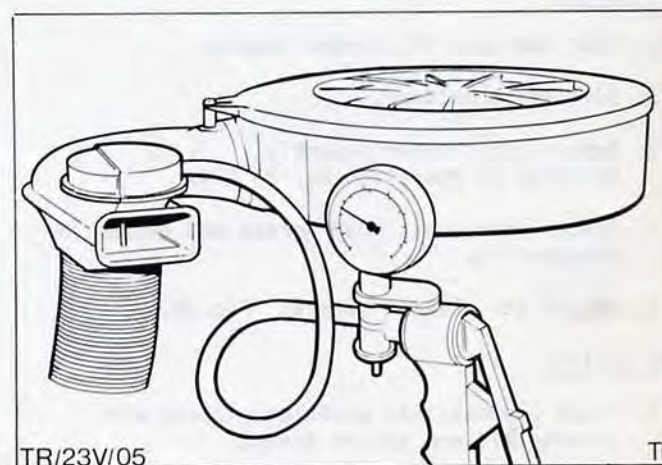

Fig.35. Hand vacuum pump connected to diaphragm.
5. Disconnect diaphragm to heat sensor pipe at the heat sensor and connect vacuum pump to diaphragm, Fig.35.